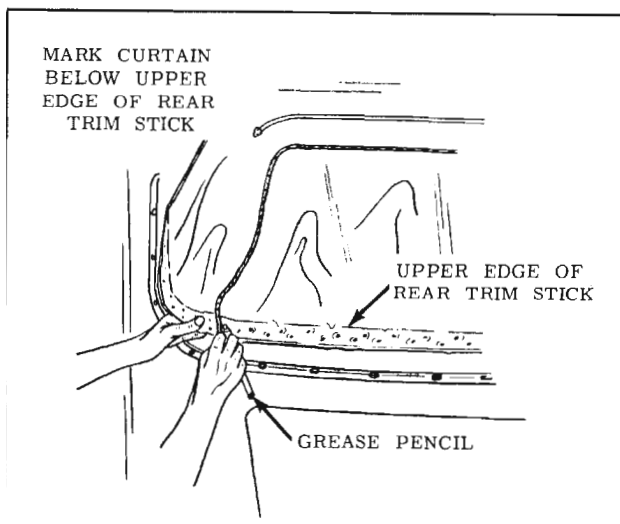

Fig. 16-114 Locating Edge of Top Material
10. To establish relationship of right and left inner vertical edge of old top material to back curtain assembly at rear trim stick location, mark back curtain vinyl at both locations with a grease pencil. (Fig. 16-114) Reference marks should be transferred to new back curtain when step 7 of installation procedure is performed.